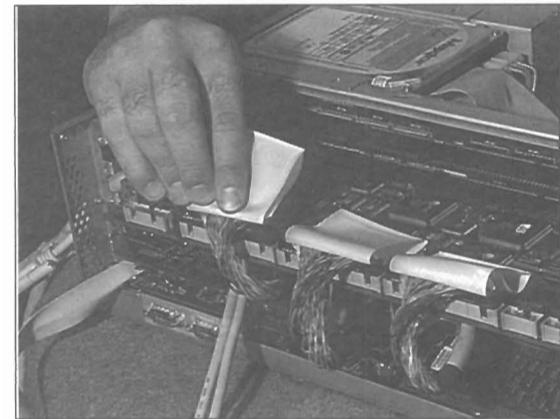

Figure 9.
- 7 The 3 SCSI cables on the cable assembly are of different lengths so that they can reach different connections. They are labeled (from longest to shortest) A, B, or C, at both ends. The Flyer card has three SCSI connections labeled SCSI0, SCSI1, SCSI2. See figure 9.